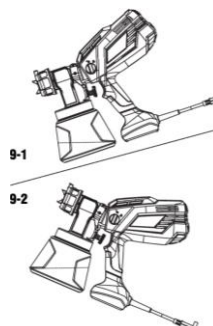

Fig. 9
When the suction tube is aligned correctly, the coating material can be sprayed without almost any residue (Fig. 9).
3. Align the suction tube (Fig. 9).